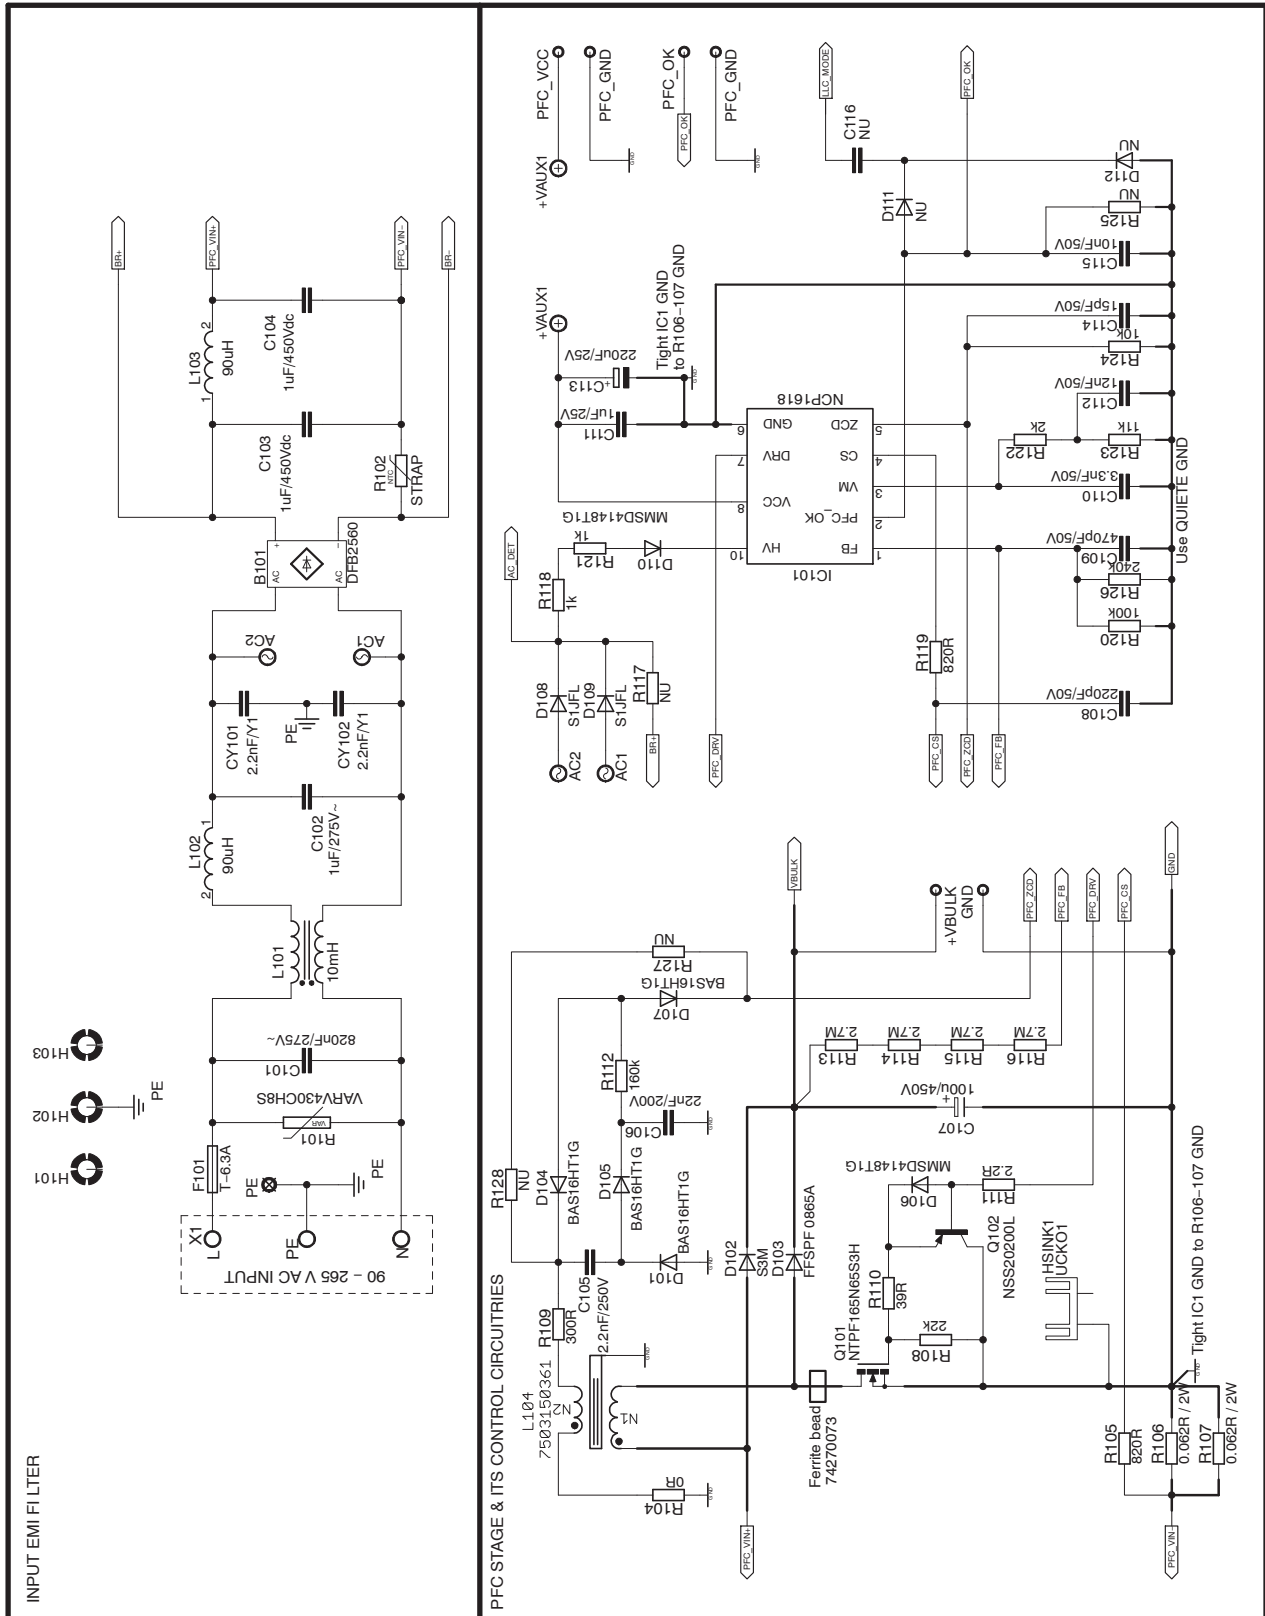

Figure 1. AOI Demo-Board Schematic – PFC Front Stage
Input side of evaluation board is protected by a several components. As first, it's a 6.3 A slow reaction fuse F101, which disconnects input in case wrong manipulation, line overvoltage stress event and unexpected stresses or conditions. Voltage dependent resistor R101 serves as input overvoltage protection triggered at approximately 275 V AC. Demo-board implements inrush-current limiting device, R102 NTC thermistor which is not assembled to allow clear efficiency measurement (Figure 1). It's recommended to assemble R102 in case of testing in hard conditions (using power grid directly or AC power supply without current limit). Use appropriate NTC inrush current limiter in case of need.
EMI filter is formed by components L101, L102, L103, C101, C102, C103, C104, CY101 and CY102 (Figure 1). The IC101 – NCP1618 measures input line voltage via diodes D108, D109, D110 and resistors R118, R121 to detect present of Brown-out/ Brown-in and SAG conditions as well as distinguishes input line level. This circuit also provides PFC Vcc Start-up feature for building controller Vcc supply. The Power Factor Corrector (PFC) power stage implements standard boost PFC topology composed of following power devices; bridge rectifier B101, power (boost) inductor L104, power MOSFET switch Q101, boost power diode D103, bypass diode D102, shunt resistors R106–R107 and bulk capacitors C107, C201–C202. The PFC controller IC101 (NCP1618) senses input voltage directly via pin 10 (HV) through network of D108, D109, D110 and resistors R118, R121. The PFC inductor current is monitored on the shunt resistor R106–R107. The series resistors R105, R119 and 127 set maximum current. Capacitor C108 that is connected between mentioned resistors filters noise caused by switching. The resistor R127 must be placed as closed as possible to the controller pin. Maximum current through resistors can be calculated based on NCP1618 datasheet. The PFC feedback divider has high impedance (approximately 10.8 M Ω) which ensures low consumption in no-load or light-load mode conditions. PFC FB divider is created from upper resistor R113–R116, lower resistors R120, R126 and capacitor C109. The PFC FB signal is filtered by capacitor C109 to minimize noise caused by the parasitic capacitive coupling between pin and other nodes that handle high dV/dt signals. PFC FB divider sets nominal bulk voltage level which is 400 V approximately. NCP1618 features positive bulk voltage hiccup, so that while LLC Stage runs under burst mode, NCP13994 forces NCP1618 to enter skip mode (stand-by mode), thus bulk-voltage is maintained between +103% and 98 % of nominal bulk voltage i.e. between ~420 V and ~394 V on this design. NCP1618 can be sent into soft-skip-mode (stand-by mode) by two ways. This demo-board implements only one solution – via pulling-down the PFC-OK pin. Refer to NCP1618 datasheet for more detailed description. The PFC-OK is directly pulled-down by IC203 via resistor R219. Once, IC201 NCP13994 enters to skip, VBULK pin (3) generates low level impulse and pulls down